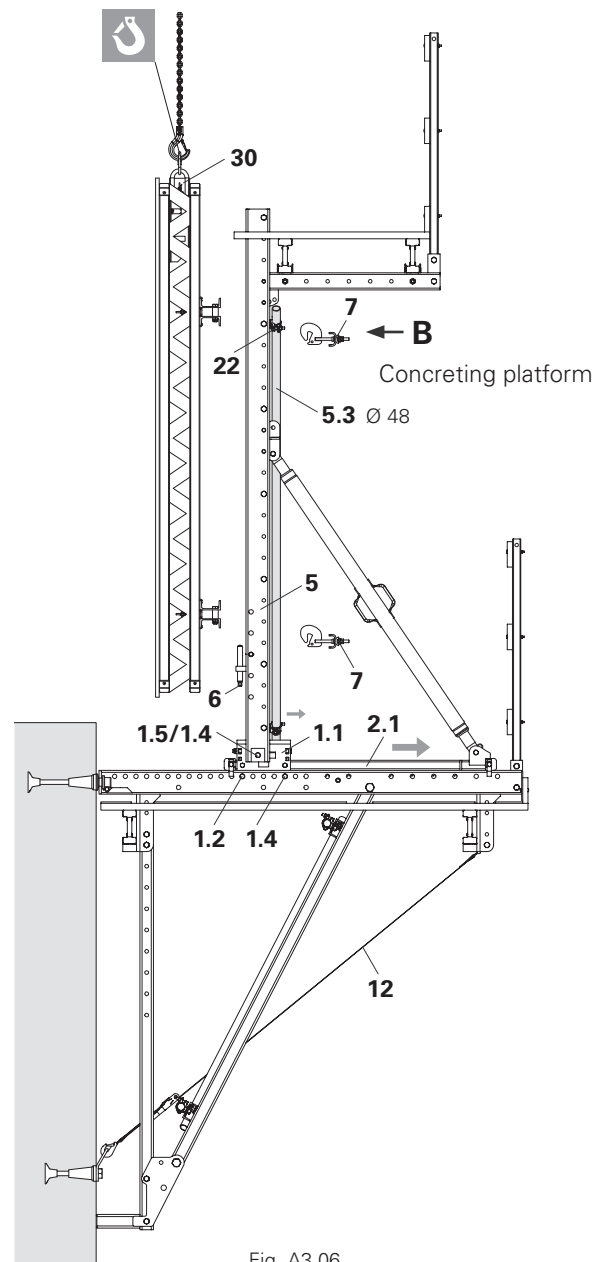

Fig. A3.06
4. Open Waler Fixation (7) and remove (4x).
5. Carefully lift the formwork with the crane. If necessary, adapt Adjusting Unit (6) or offset (2x).
8. Insert Waler Fixation (7) and clamp formwork to prevent tipping (4x).
11. Remove Crane Splice (30) from the formwork element.
- The load-bearing point used to move the climbing unit is positioned on the Strongback. (Fig. A3.06)